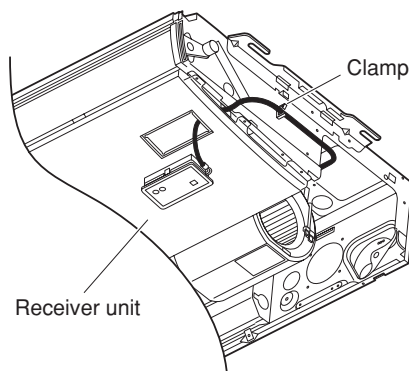
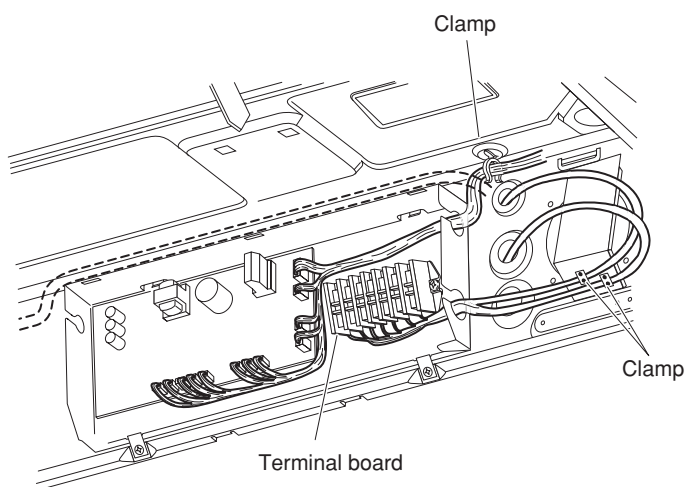

Fig. 11-9
Fig. 11-10
- (3) Pass the lead wire through the panel, then install the receiver unit in the panel hole. (The projections on the receiver unit engage the panel holes to attach the unit.)
- (4) Fasten the receiver lead wire to the fastener that holds the louver motor wiring. (Fig. 11-9)
- (5) Reattach the side panel.
- (6) Route the lead wire from the receiver unit along the louver motor wiring and other wiring and fasten them with a fastener. (Fig. 11-10)